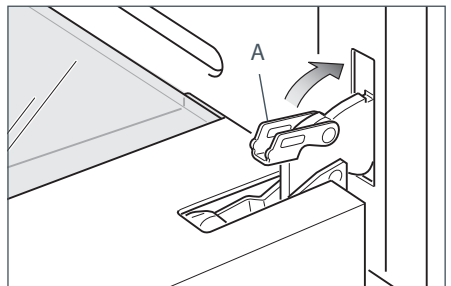

Fig.47d
- 4 Unlock the oven door by opening it completely and closing the lever "A" on the left and right hinges (Fig. 47d).